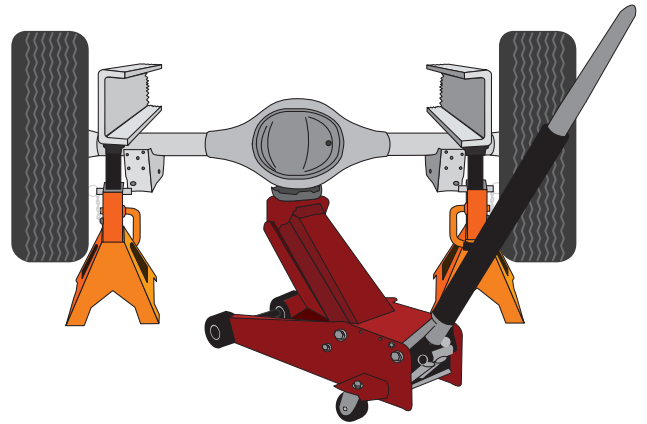

Fig. 2
1. Lift the vehicle and support the frame with safety stands. Drop the axle down low enough to later set the air spring assemblies into position between frame and leaf spring (Fig. 2).